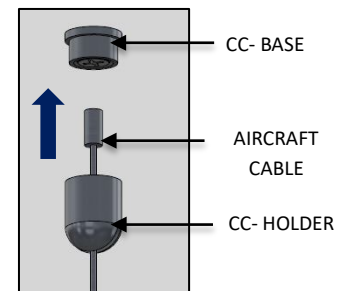

FIG. 26 - AIRCRAFT CABLE INSTALLATION
7. Locate the AIRCRAFT CABLES from the mounting kit. Only three (3) will be used in this step.
8. Feed the AIRCRAFT CABLES through the three (3) CC-HOLDER. Once the AIRCRAFT CABLE is fed thru the CC-HOLDER, secure to the CC-BASE (mounted) at the three (3) non powered mounting locations as shown in FIG. 26.